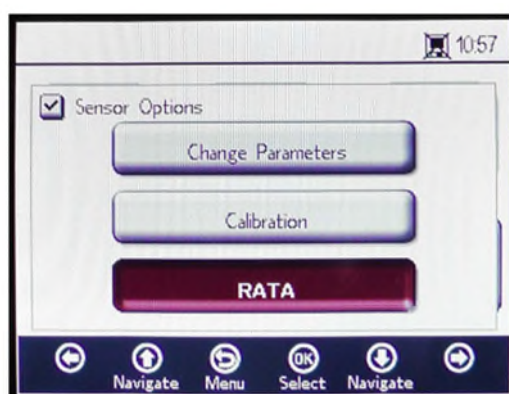

Figure 57. Sensor options screen
1. Select **RATA** in the SENSOR OPTIONS window. Refer to Figure 57.